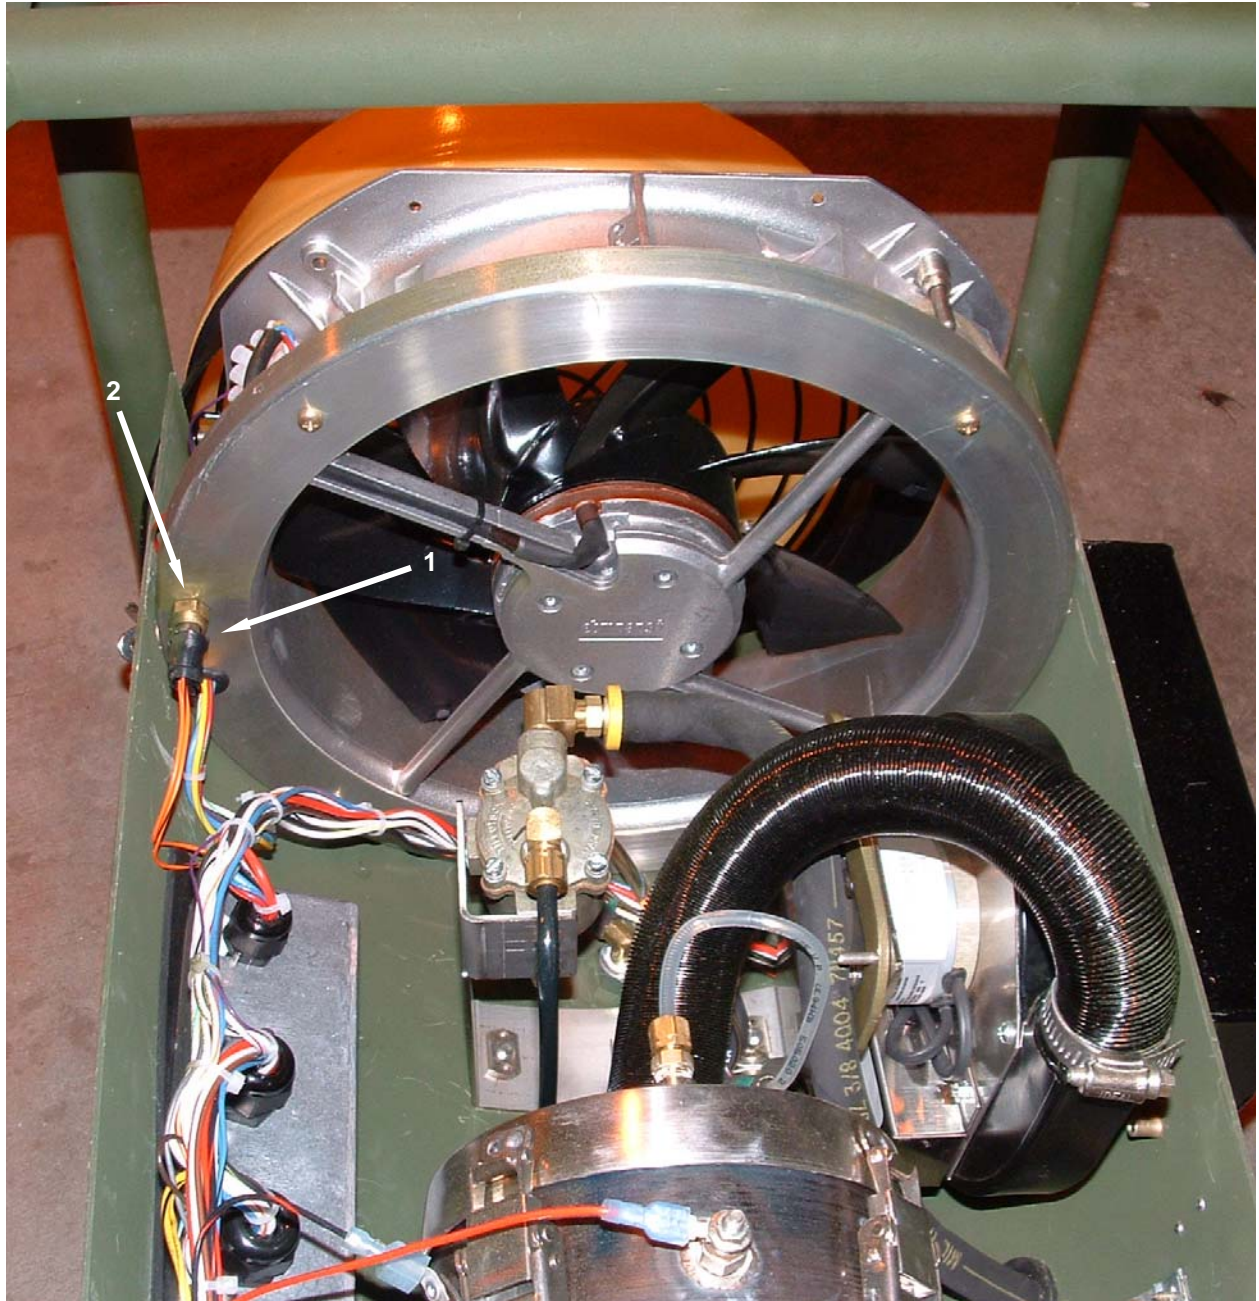

Figure 1. Inlet Air Temperature Sensor.
1. Remove connector (**Figure 1, Item 1**) at end.
2. Remove inlet air temperature sensor (**Figure 1, Item 2**).
3. Install new inlet air temperature sensor (**Figure 1, Item 2**).
4. Reconnect connector (**Figure 1, Item 1**).